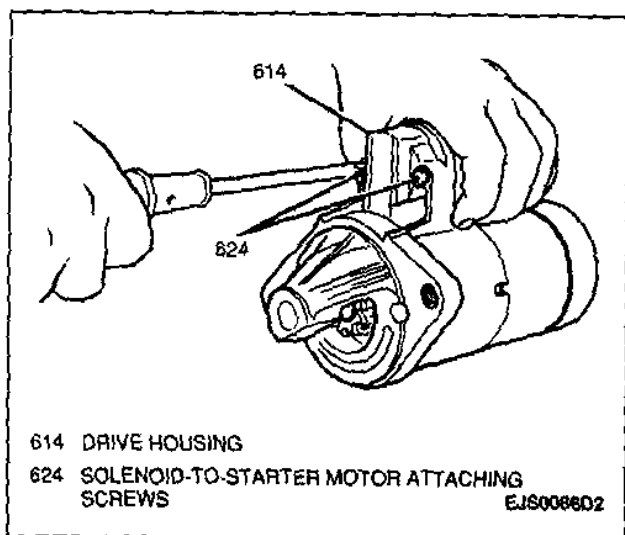

Figure 8—Removing Starter Solenoid From Drive Housing
2. Two solenoid attaching screws and starter solenoid from drive housing (Figure 8).